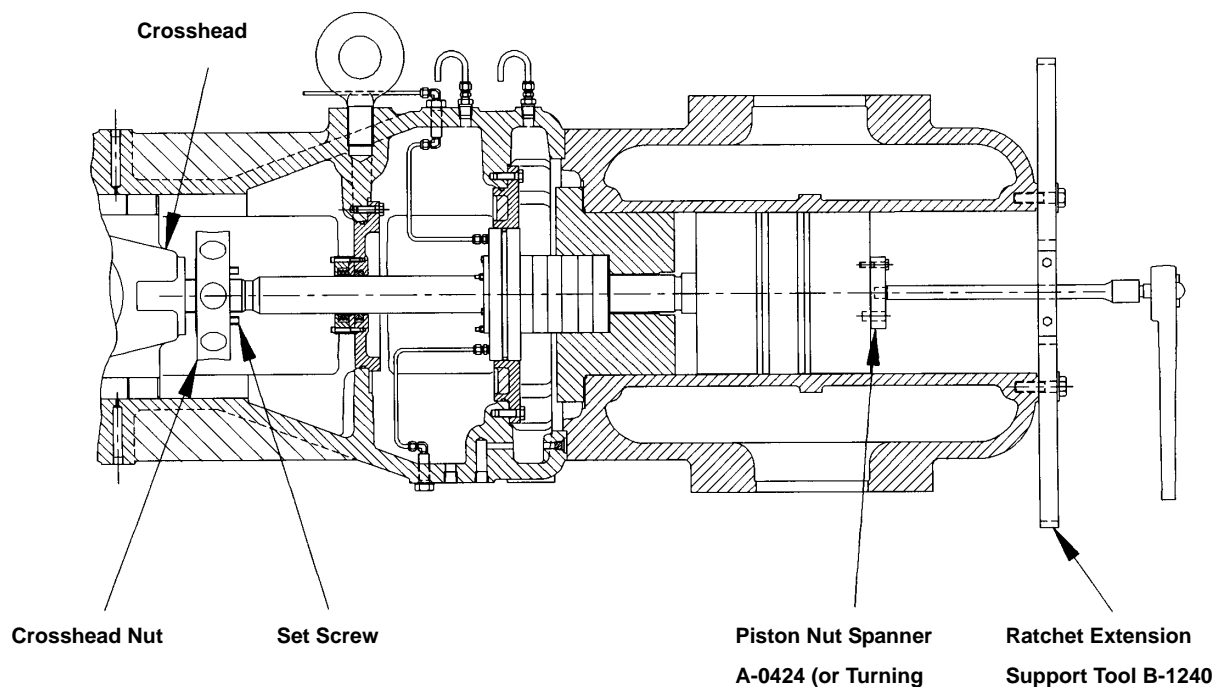

FIGURE 5-11 PISTON AND ROD REMOVAL AND INSTALLATION
4. Use the Piston Nut Spanner and Ratchet Extension Support to screw the piston and rod assembly out of the crosshead. Refer to Figure 5-11 on page 5-18. The two dowels on the Piston Nut Spanner fit the holes in the piston nut. Turn the crosshead nut off the piston rod.
2. Screw the crosshead nut onto the piston rod. Make sure all threads and nut seating surfaces are well lubricated with clean, fresh oil to ensure proper assembly. Position the crankshaft in the inner dead center position. Remove a crank end discharge valve. Determine the required piston crank end clearance as shown on the cylinder identification plate. Refer to Table 1-1 on page 1-6. Insert a feeler gage, equal to the required crank end clearance, thru the discharge valve pocket. Use the tools illustrated in Figure 5-11 on page 5-18 to screw the piston rod into the crosshead until piston is snug against the feeler gage. Snug the crosshead nut, but do not tighten. Remove the feeler gage.